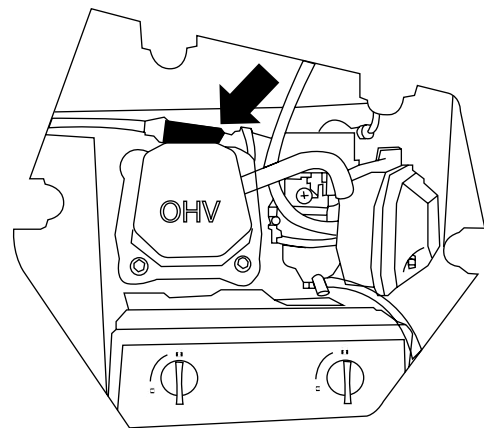

Figure 18: Pull off Spark Plug Cover
4. Remove the spark plug cover by firmly pulling the metal spark plug boot directly away from the engine (see Figure 18).